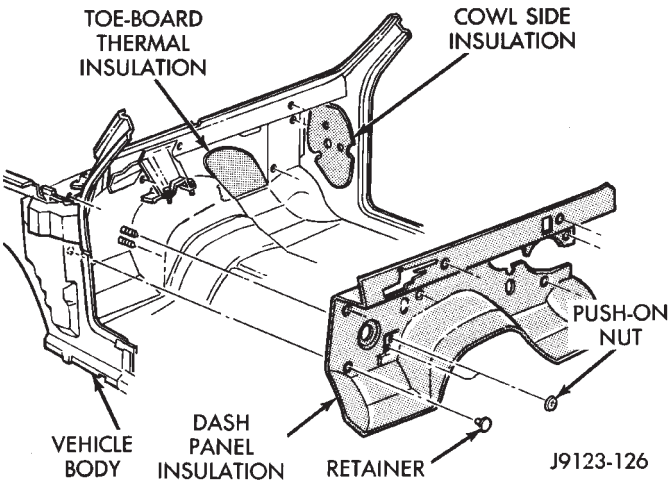

Fig. 26 Insulation Panel Removal/Installation
(5) Remove the retainers, the push-on nuts and the insulation panel from the dash panel (Fig. 26).
(1) Position the insulation panel on the dash panel and install the retainers and the push-on nuts (Fig. 26).
(2) Install the heater and A/C evaporator unit on the dash panel. If necessary, refer to the installation procedure in Group 24.
(3) Install the steering column.
(4) Position the defroster duct on the cowl tabs and install screws. Tighten screws to 2 N·m (20 in-lbs) torque.